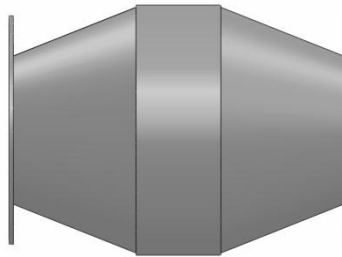

Figure 6: Diesel Oxidation Catalyst
Step 4: When applicable, mount the Diesel Oxidation Catalyst (DOC), Figure 6, to the outlet end of the DPF. It is important to install a gasket between the DOC and the DPF flanges.